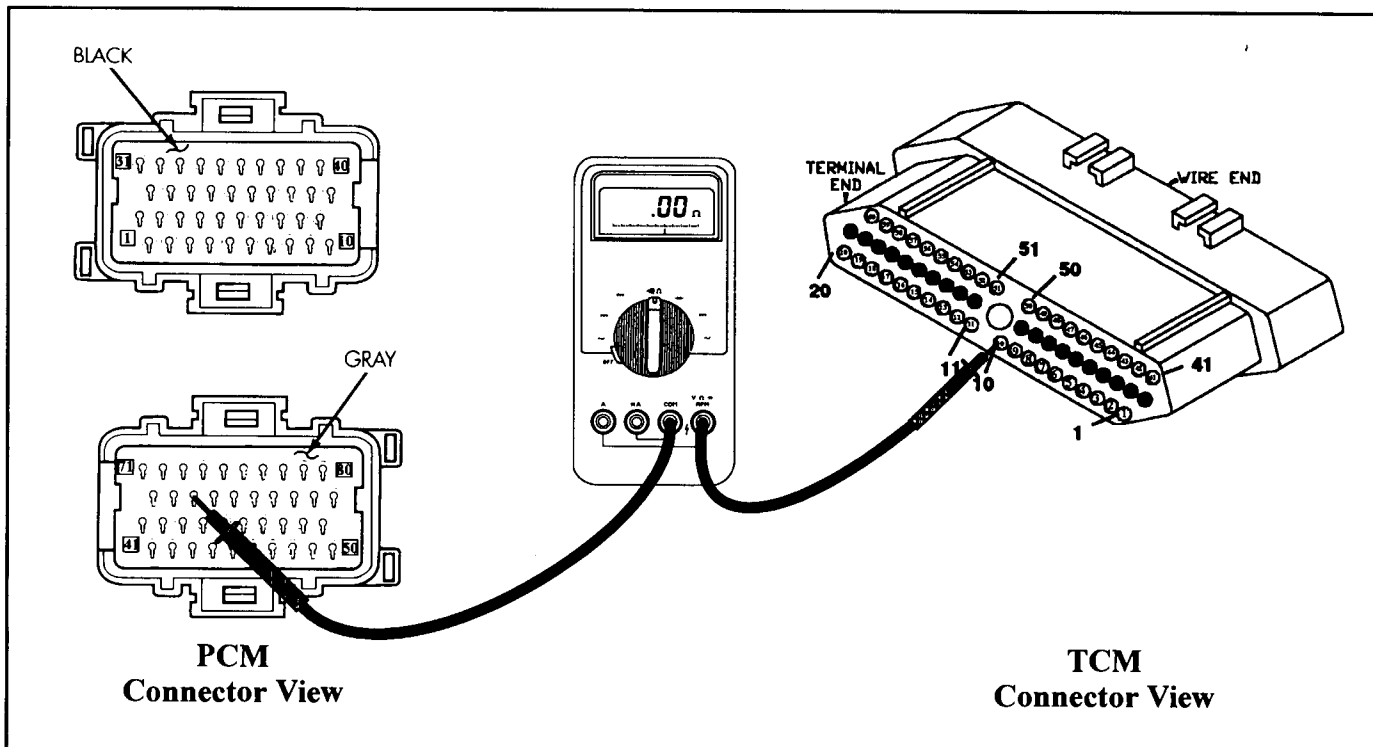

Figure 59
- Keep the ignition off and unplug the PCM and perform a continuity check across the wire. Place one meter lead to cavity 63 in the PCM connector and 10 in the TCM connector (See Figure 59). If resistance is below 5 ohms change the PCM. If an open is seen, repair or replace the severed wire.